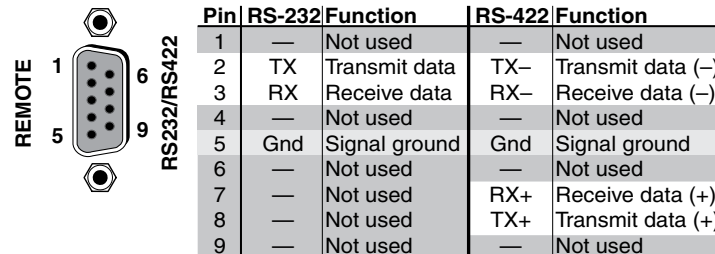

Figure 2-10 — Remote RS-232/RS-422 connector
- ⑧ **Remote RS-232/RS-422 connector** — Connect a host device, such as a computer, touch panel control, or RS-232 capable PDA to the switcher via this 9-pin D connector **on BME 0 only** for serial RS-232/RS-422 control (figure 2-10).